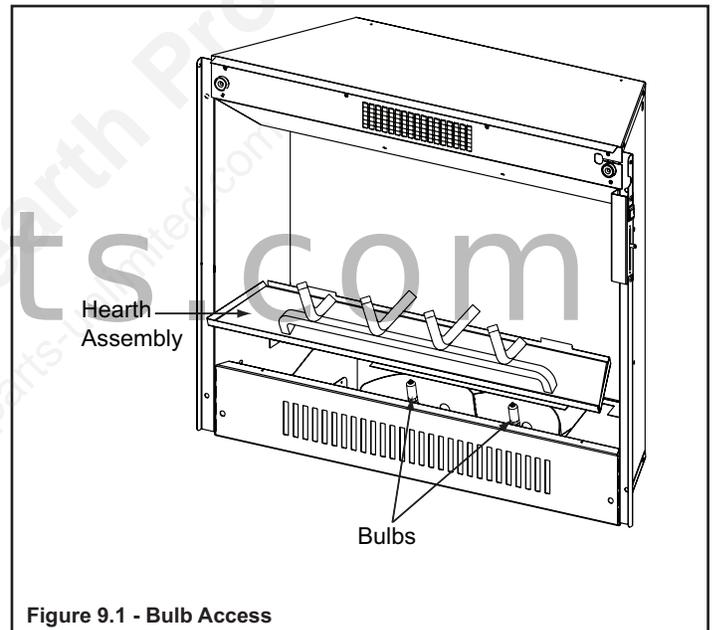

Figure 9.1 - Bulb Access
- Light bulb access is through the hearth assembly. See Figure 9.1.